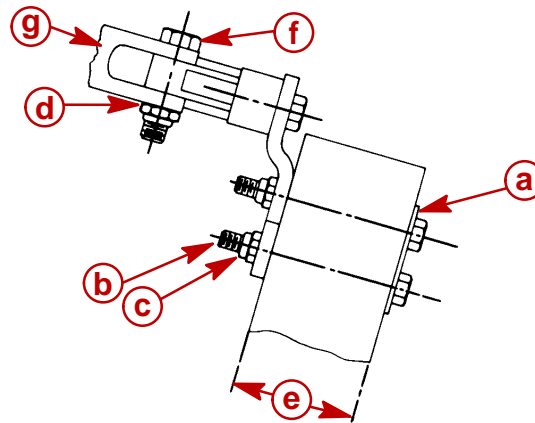

Figure 2
7. Use a marine-type sealer on three 5/16 in. x 3-1/4in. (7.9mm x 82.6mm) bolts. Secure attaching kit to transom, using transom backing plate, 3 bolts (with sealer) and 3 lock-nuts, installed as shown in Figure 2. Torque lock nuts to 10 lb. ft. (13.5 Nm).